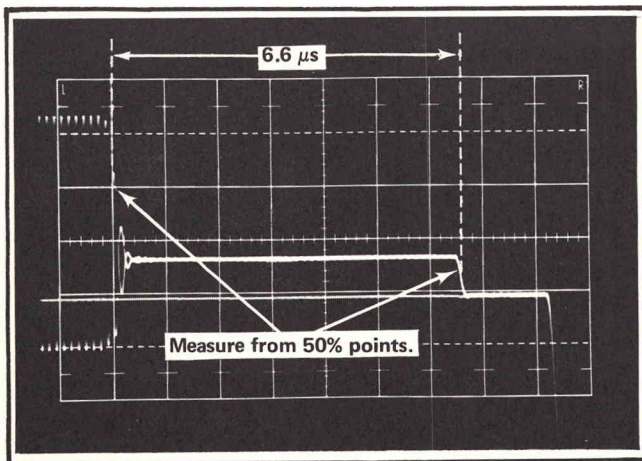

Fig. 5-11. Black bar width properly adjusted.
①
c. Set the test oscilloscope Horizontal Display Sweep Magnifier switch to X10 and rotate the Horizontal Position control to position the start of the black bar on a major graticule line as shown in Fig. 5-11.